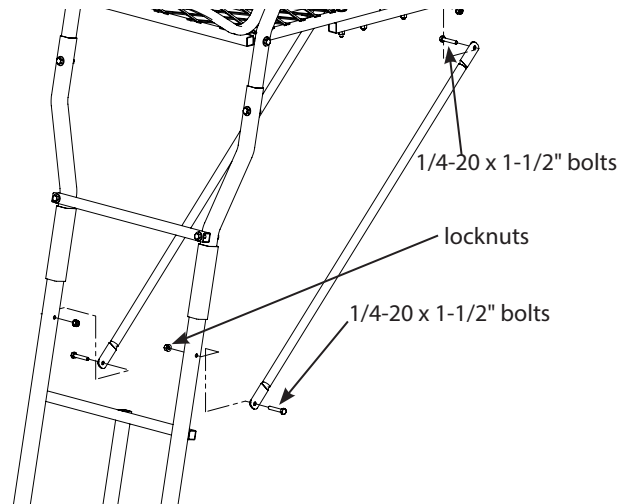

Figure 20
18. Attach the (2) support braces (410024) to the inside of lower tree blade and outside of top ladder section w/ mounting holes using (4) provided 1/4-20 x 1-1/2" bolts and locknuts. **SEE FIGURE 20. Tighten securely. Be sure not to over tighten or crush tubing when tightening!**